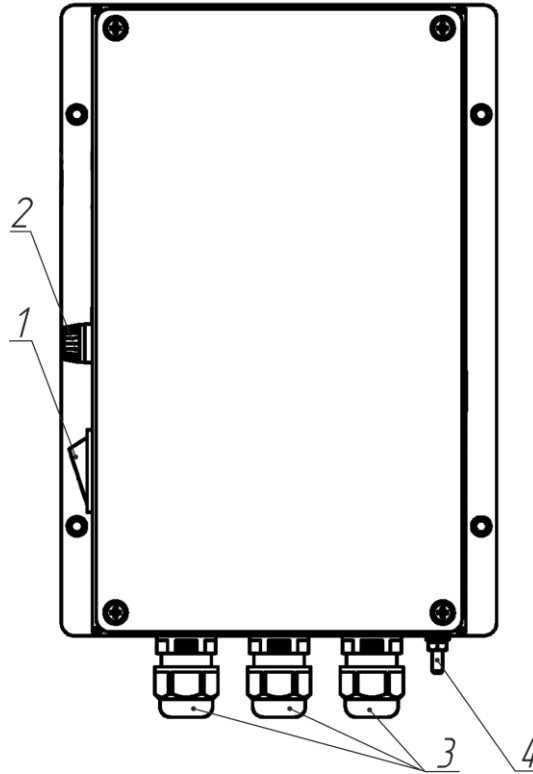

Figure 1 – The Product's appearance
1.3.1 The Product is produced in metal casing; piano type on/off switch and fuse holder are located on the casing, see Figure 1.
Note – See the numbers in Figure 1.